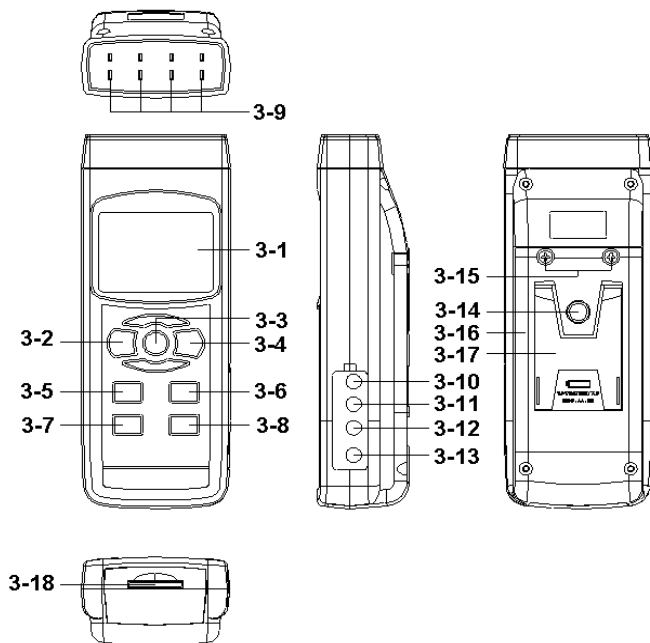

Fig. 1
1) Power on the meter by pressing the " Power button " (3-2, Fig. 1) once.
3) Insert the Type K probes into the " T1, T2, T3, T4 input socket " (3-9, Fig. 1).
All the measuring procedures are same as the Type K (section 4-1) except to select the Temp. Sensor type to " Type J/K/T/E/R/S " by pressing the " Type Button " (3-5, Fig. 1) once in sequence until the up LCD display show " J/T/E/R/S " indicator.
- 1) All the measuring procedures are same as the Type K (section 4-1) except to select the Temp. Sensor type to " Pt " by pressing the " Type Button " (3-5, Fig. 1) once in sequence until the right down LCD display show " Pt " text as :
PT1 input socket (3-10, Fig. 1)
PT2 input socket (3-11, Fig. 1)
Pressing the " T1-T2 button " (3-6, Fig. 1), display will show the difference temperature value between T1, T2 (PT1, PT2) as :
During the measurement, press the " Hold Button " (3-3, Fig. 1) once will hold the measured value & the LCD will display a " HOLD " symbol.
1) The data record function records the maximum and minimum readings. Press the " REC Button " (3-4, Fig. 1) once to start the Data Record function and there will be a " REC " symbol on the display.
a) Press the " REC Button " (3-4, Fig. 1) once, the " REC MAX " symbol along with the maximum value will appear on the display.
If intend to delete the maximum value, just press the " Hold Button " (3-3, Fig. 1) once, the display will show the " REC " symbol only & execute the memory function continuously.
b) Press the " REC Button " (3-4, Fig. 1) again, the " REC MIN " symbol along with the minimum value will appear on the display.
If intend to delete the minimum value, just press the " Hold Button " (3-3, Fig. 1) once, the display will show the " REC " symbol only & execute the memory function continuously.
After power ON, the " LCD Backlight " will light automatically. During the measurement, press the " Backlight Button " (3-2, Fig. 1) once will turn OFF the " LCD Backlight " .
Prepare a " SD memory card " (1 GB to 16 GB, optional), insert the SD card into the " SD card socket " (3-18, Fig. 1). The front panel of the SD card should face against the down case.
Press the " REC Button (3-4, Fig. 1) once , the LCD will show the text " REC " , then press the " Logger Button " (3-8, Fig. 1), the " REC " will flashing and beeper will sound, at the same time the measuring data along the time information will be saved into the memory circuit.
During execute the Datalogger function , if press the " Logger Button " (3-8, Fig. 1) once will pause the Datalogger function (stop to save the measuring data into the memory circuit temporally). In the same time the text of " REC " will stop flashing.
If press the " Logger Button " (3-8, Fig. 1) once again will execute the Datalogger again, the text of " REC " will flashing .
During pause the Datalogger, press the " REC Button " (3-4, Fig. 1) continuously at least two seconds, the " REC " indicator will be disappeared and finish the Datalogger.
Press the " REC Button " (3-4, Fig. 1) once , the LCD will show the text " REC " , then press the " Logger Button " (3-8, Fig. 1) once, the " REC " will flashing once and Beeper will sound once, at the same time the measuring data along the time information and the Position no. will be saved into the memory circuit.
** During execute the Manual Datalogger, use the " ▲ Button " (3-5, Fig. 1) or " ▼ Button " (3-6, Fig. 1) to set the measuring position (1 to 99, for example room 1 to room 99) to identify the measurement location.*
Press the " REC Button " (3-4, Fig. 1) continuously at least two seconds, the " REC " indication will be disappeared and finish the Datalogger.
During the normal measurement (not execute the Datalogger), If press " Time check Button " (3-7, Fig. 1) once , the lower LCD display will present the time information of Year/Month, Date/Hour, Minute/Second.
During the normal measurement (not execute the Datalogger), If press " Sampling Button " (3-8, Fig. 1) once , the lower LCD display will present the Sampling time information in second unit.